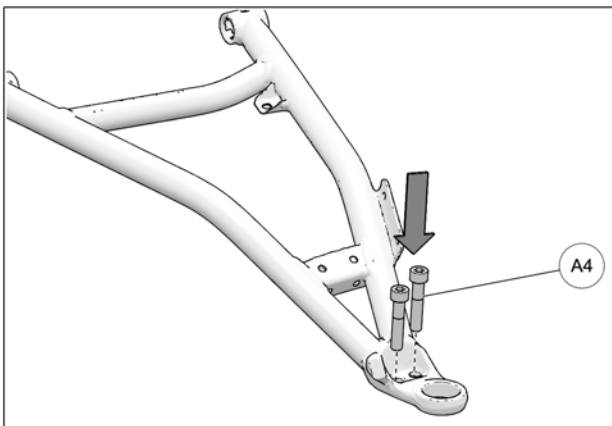

Fig. 14
4. Lift upper suspension arm and insert two socket head screws (A4) in lower suspension arm as shown below in Fig. 14.